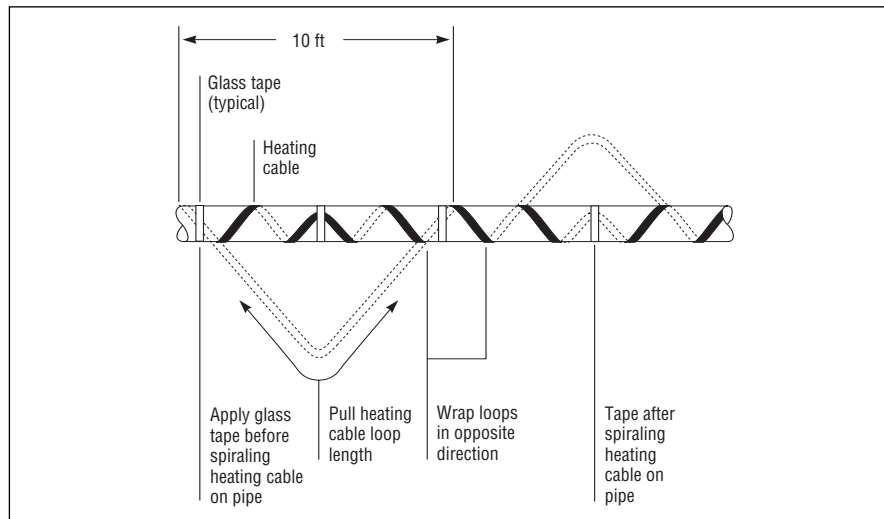

Figure 1. Spiraled heat tracing
- When the design calls for spiraling, begin by suspending a loop every 10 feet as shown in Figure 1. To determine the loop length, obtain the spiral factor from Table 1 or 2 and multiply by 10. For example, if